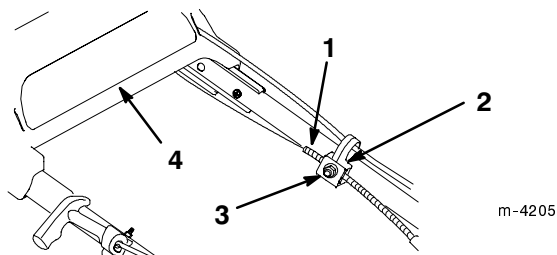

Figure 33
2. Loosen the cable support nut (Fig. 33).
4. With the upper handle pushed back as far as possible and while holding the drive bracket down, pull the cable jacket down (toward the lawn mower) until there is no slack in the cable (Fig. 33).
5. Tighten the nut on the cable support (Fig. 33).